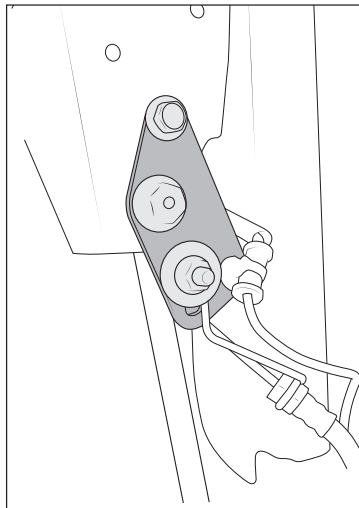

Figure 29
5. Loosely install brake line relocation brackets using factory hardware, and install new sway bar endlinks using M12x70mm hardware as shown (fig. 29). Do not install lower end of endlinks yet.
6. Carefully bend brake line to line up to the new mounting bracket and install using provided M8 hardware. Install ABS sensor into hole with existing clip (fig. 29).